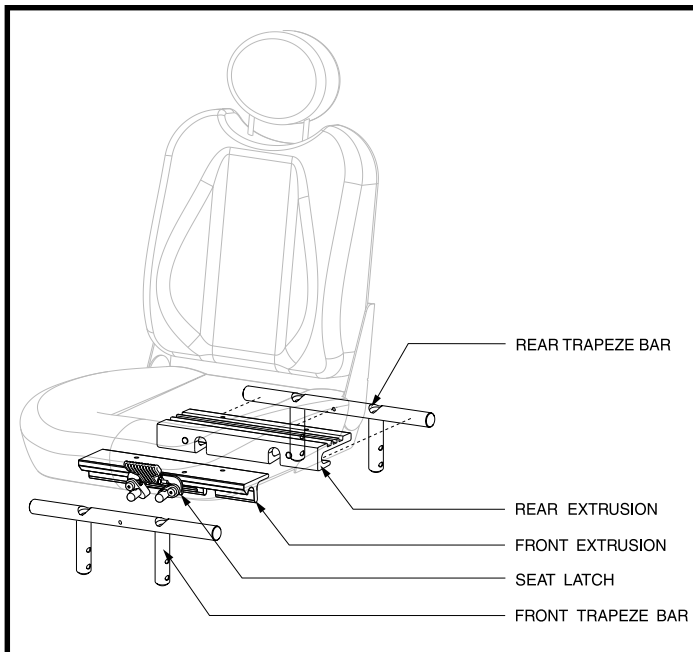

Figure 9. Universal Mounting System
2. Tilt the seat back, and slide the rear extrusion onto the rear trapeze bar. See figure 9.
3. Remove both extrusions from the bottom of the seat. See figure 9.